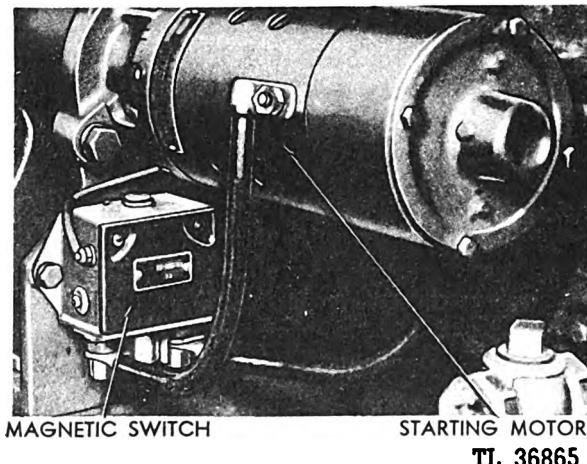

Fig. 213. Cranking Motor
73. **Cranking Motor.** The Leece - Neville 1236-M cranking motor is a series type, four-pole, four-brush motor. The current drawn by the motor is inversely proportional to the speed. Consequently, as the load drops off, the tendency is for the speed to increase. For this reason do not run the motor at the rated voltage without a load for any length of time, as it will tend to exceed the maximum allowable speed. (See Figure 213.)